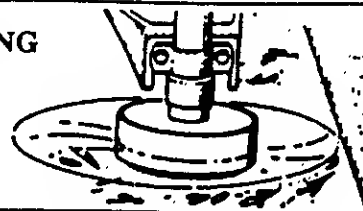

Figure 15
4. **SWEEPING** - Figure 15 . The fanning action of the rotating line can be used for a quick and easy clean up. Keep the line parallel to and above the surfaces being swept and move the tool from side to side.